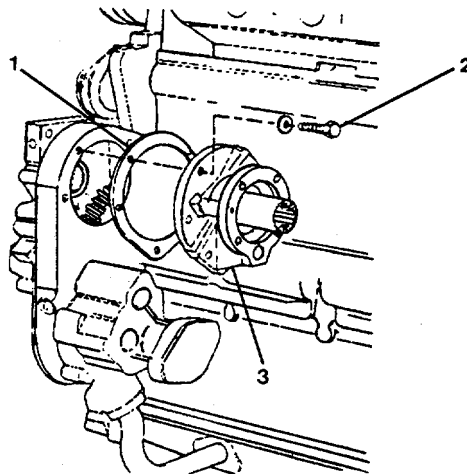

FIGURE 3-35. Removing Accessory Drive.
- f. Remove five assembled screws and flat washers (2, Figure 3-35) from accessory drive assembly (3).
- g. Use a rubber hammer to loosen the drive. Remove drive assembly (3) and gasket (1). Discard gasket.